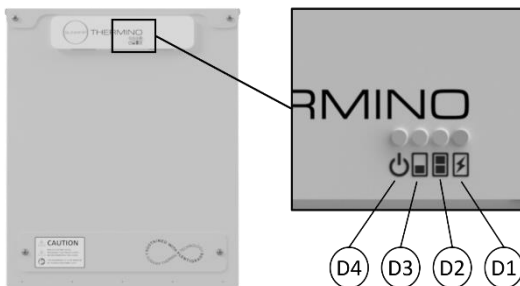

Figure 13 – Thermino xPlus Heat Battery LED operation
6. Check the front of the Heat Battery to ensure that the "power" LED is lit (see Figure 13 & Table 9).
- Battery heating element will engage, observe if the “heating element” LED is lit (see Figure 13 & Table 9).